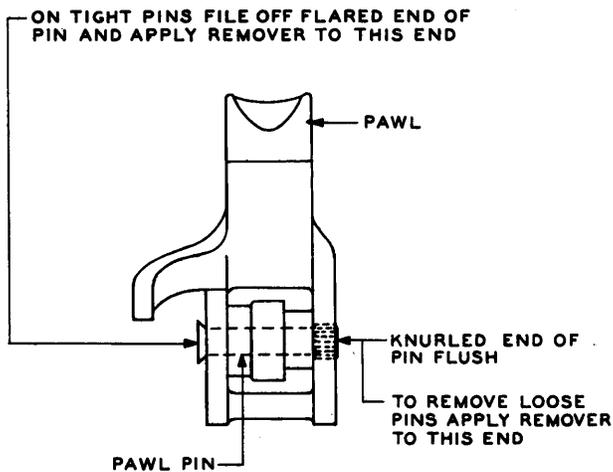

Fig. 4 – Vertical Pawl with Headless-Type Pawl Pin Having Knurl at Right of Pawl
3.07 Removing Vertical Pawl Pin per Fig. 4